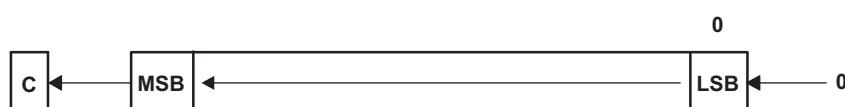

Figure 4-44. Destination Operand-Arithmetic Shift Left
The destination operand is shifted left one position as shown in Figure 4-44. The MSB is shifted into the carry bit (C) and the LSB is filled with 0. The RLAX instruction acts as a signed multiplication by 2.